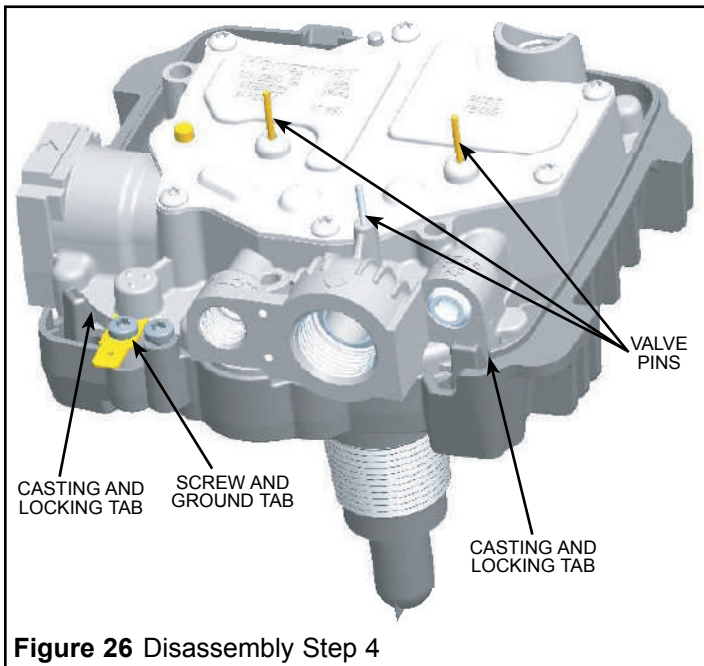

Figure 26 Disassembly Step 4
2. Remove the screw and the ground tab with a Torx screwdriver (see Figure 26).